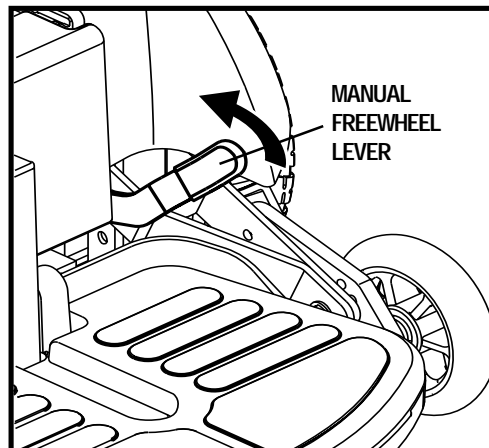

Figure 9. Freewheel Mode (Drive Disengaged)
3. Pull the levers upward to disengage the drive motors. See figure 9.